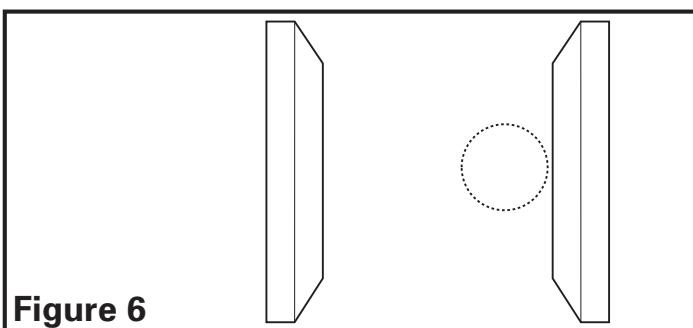

Figure 6
- Place the collar/damper in the selected location and trace a circle onto the surface. From the interior side of the room, cut through the surface. Please note: Take care not to damage the ceiling and make a smooth cut (**Figure 6**).